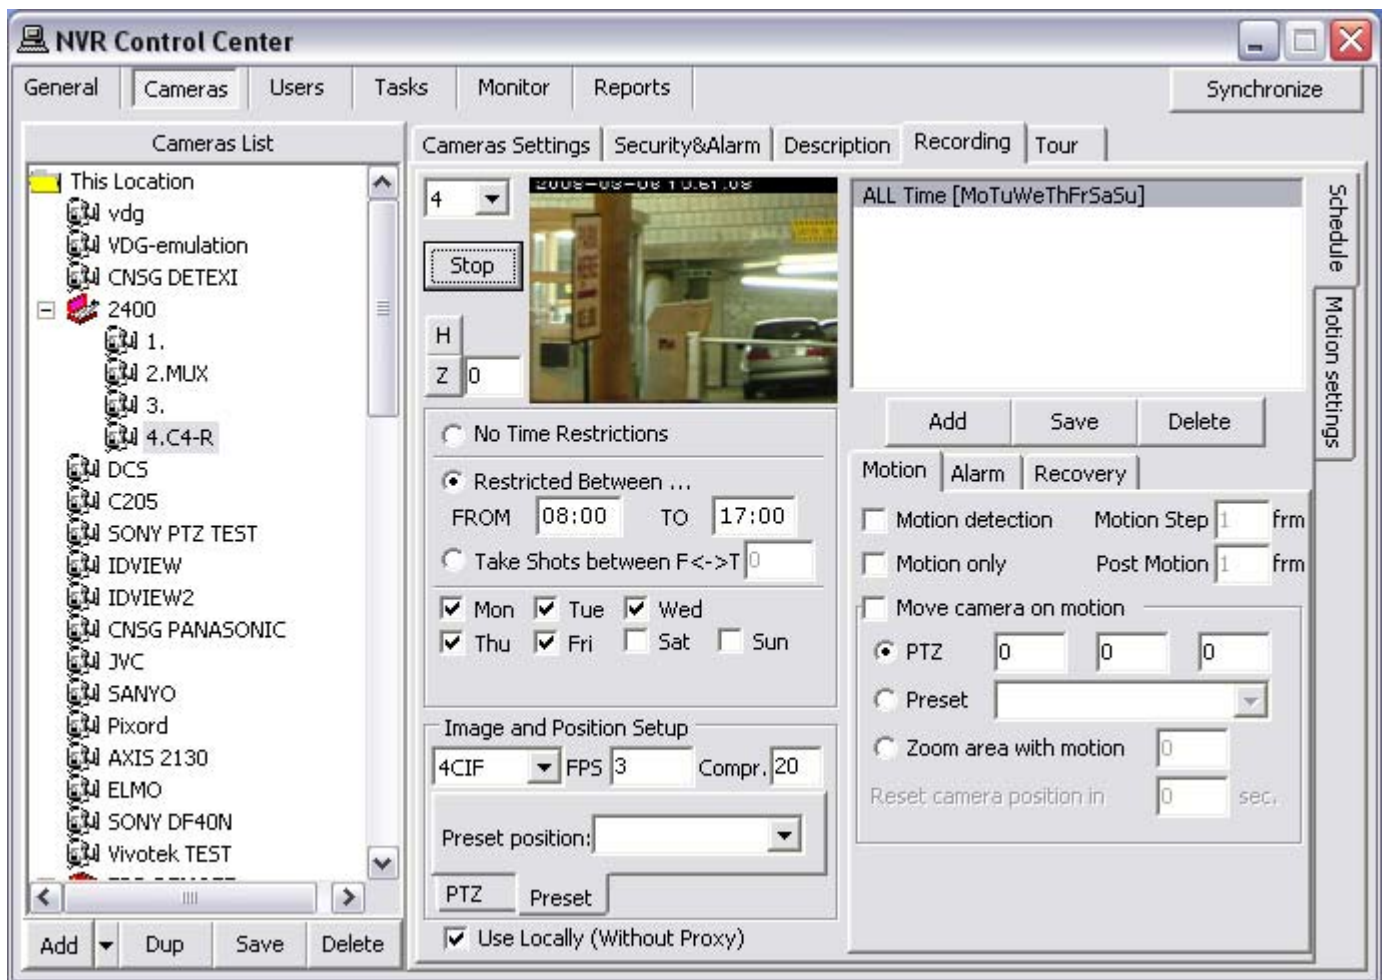

Fig 48. NVR Control Center — Cameras — Recording — Schedule
1. In the **NVR Control Center — Cameras** select a camera from the **Cameras List** (Fig 48).